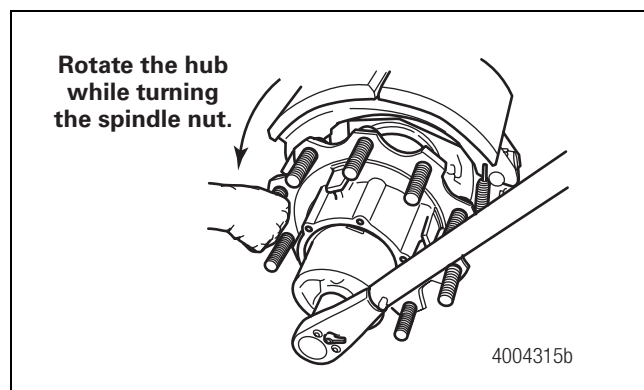

Figure 9
7. Tighten the spindle end nut to 810-850 lb-ft (1100-1150 N•m) while rotating the wheel and hub in a **COUNTERCLOCKWISE** direction. Do not back off the nut after tightening. Mark the nut location relative to the spindle. Figure 9.